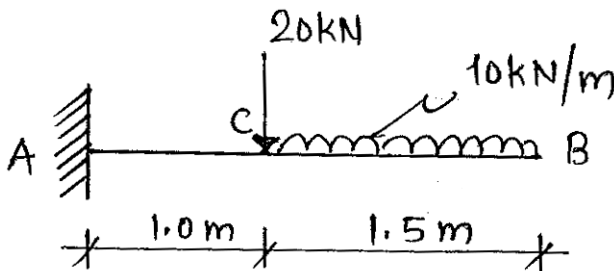

Fig No. 3
- a) Draw SFD and BMD for a beam loaded and supported as shown in fig. No.3.